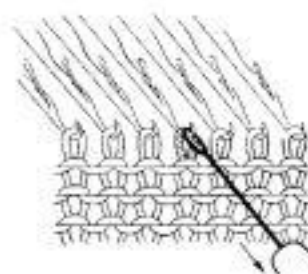

Fig. 39-1
- a) Place the eye of the Transfer Tool into the open needle hook. (Fig. 39-1)